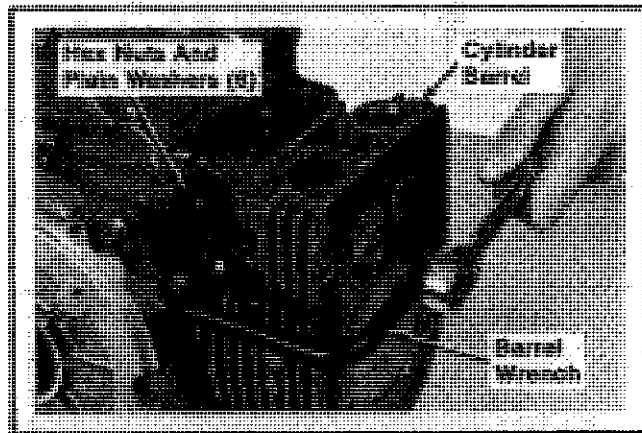

Figure 9-23. Removing Cylinder Barrel Fasteners.
1. Remove the hex nuts and plain washers using the barrel wrench. Refer to Figure 9-23.